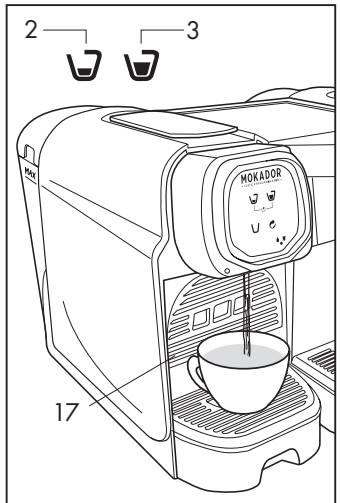

Fig. 6
- Symbols (2-3-12-13-15) will flash intermittently until the correct temperature has been reached; when the symbols (2-3-12-13-15) come on steady, the machine is ready for use. Close the small cup holder (17), place a cup on the grid and press the delivery symbol (2-3). The machine delivers water (Fig. 6). Press the symbol again when the desired amount of water has been delivered. Rinsing is complete when at least three cups of water have been delivered.